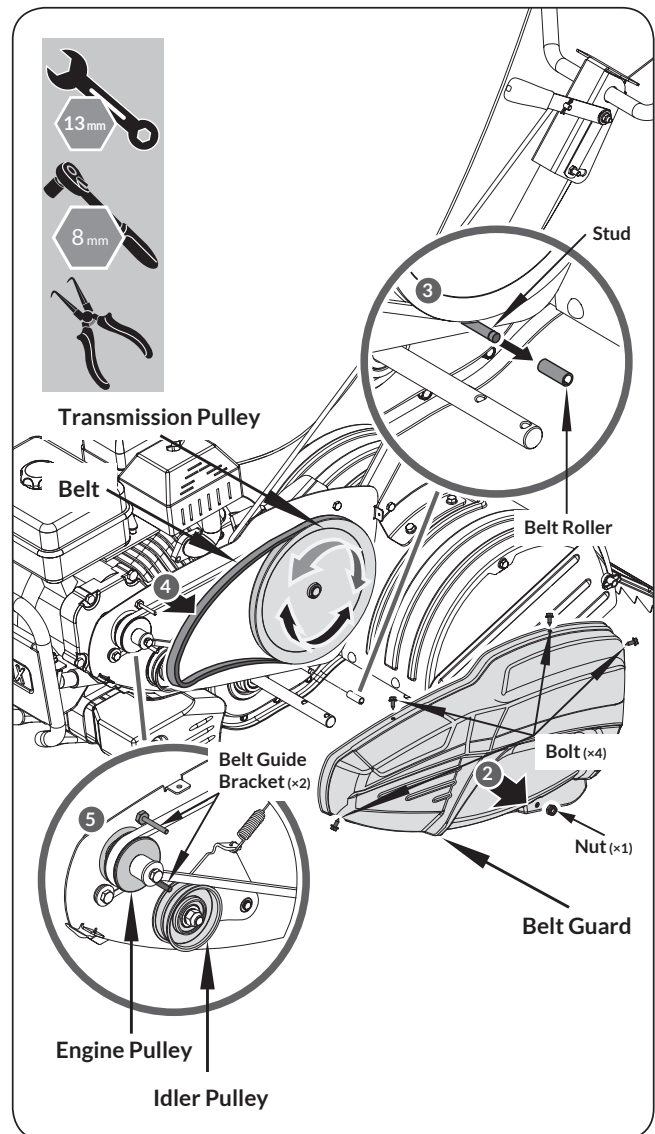

Figure 12b
2. Remove the 4 bolts and 1 nut on the belt guard to expose the belt assembly. (See **Figure 12b, illustration 2**)
3. Slide the belt roller off its stud below the large transmission pulley. (See **Figure 12b, illustration 3**)
4. Remove the belt from the engine and idler pulley: Rotate the transmission pulley and pull the belt gently through the roller stud while working it free from the pulley. (See **Figure 12b, illustrations 4 & 5**)